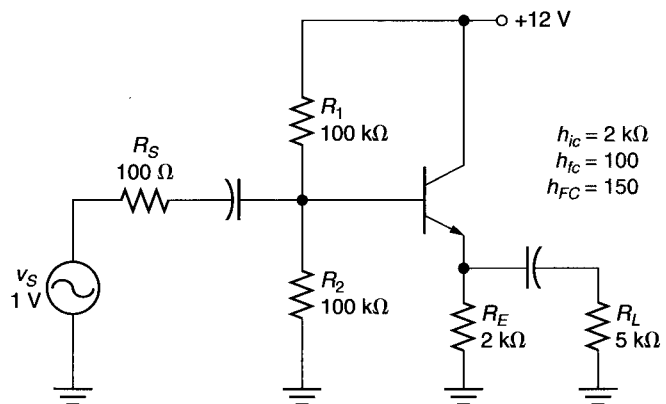

FIGURE 10.20
- Determine the values of  $V_B$ ,  $V_E$ , and  $I_E$  for the circuit shown in Figure 10.20.
- Plot the dc load line for the circuit shown in Figure 10.20.
- Determine the value of  $Z_{\text{in}}$  for the circuit shown in Figure 10.20.
- Determine the values of  $A_v$ ,  $A_i$ , and  $A_p$  for the circuit shown in Figure 10.20.
- Determine the value of  $Z_{\text{out}}$  for the circuit shown in Figure 10.20.